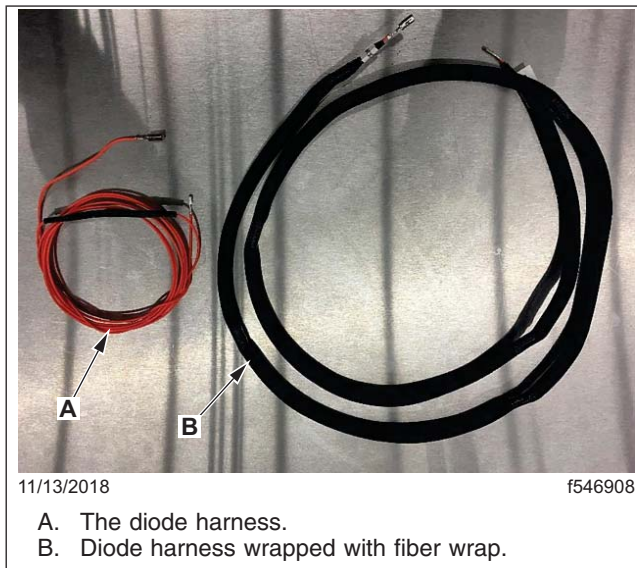

Fig. 4, Diode Harness Wrapped with Fiber Wrap
16.1 Before installing the diode harness, make sure that the harness is wrapped with fiber wrap. See Fig. 4.